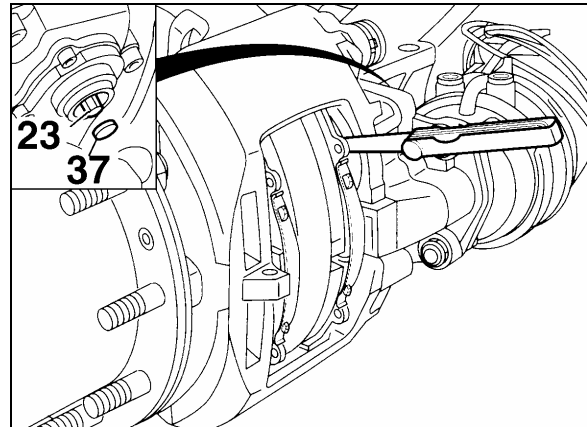

FIGURE 37: RUNNING CLEARANCE 12116
- Insert a feeler gauge 0.028 inch (0.7 mm thickness) between tappet and pad backplate (Fig. 37). Turn adjuster pinion clockwise until 0.028 inch (0.7 mm) clearance is achieved. Replace cap (37) (Prévost # 641313).
- To ensure a constant running clearance between the rotor and pads, the brake is equipped with an automatic adjuster unit. When the pads and rotor wear, the running clearance between the pads and rotor increases. The adjuster (23, Fig. 37) and turning device turn the threaded tubes by the amount necessary to compensate the wear.